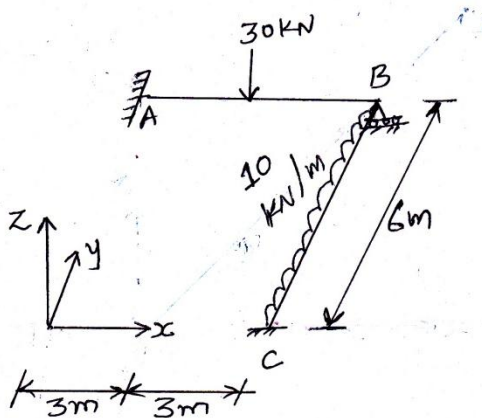

Figure 5
- Q.3** (a) Construct rearranged joint stiffness matrix for a grid as shown in Figure 5. **07**
- (b) Obtain load vector for the grid shown in Figure 5. **07**